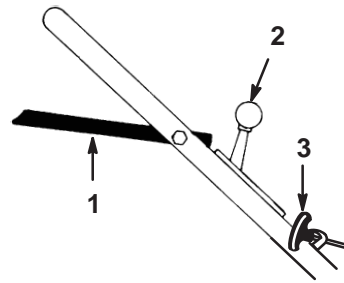

Figure 10
The blade control bail, throttle control, and starter handle are on the upper handle as shown in Figure 10.
- Move the throttle control to the (**Choke**) position (Fig. 10).